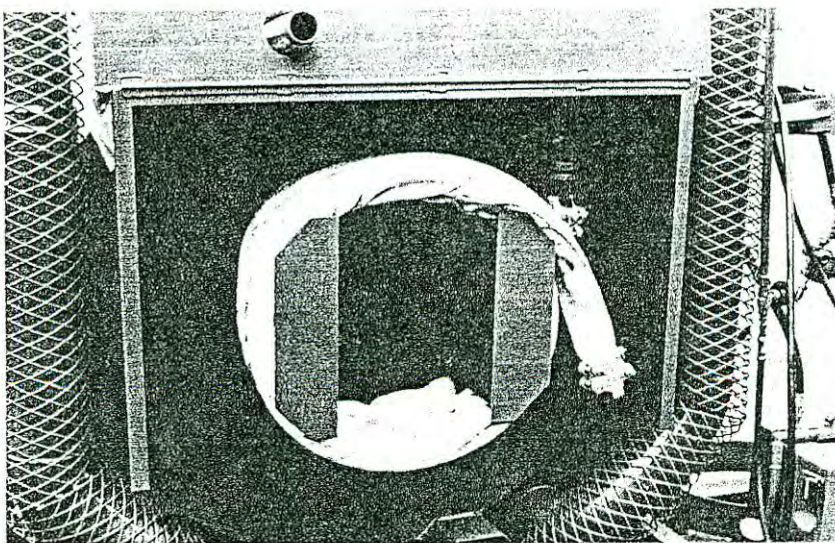
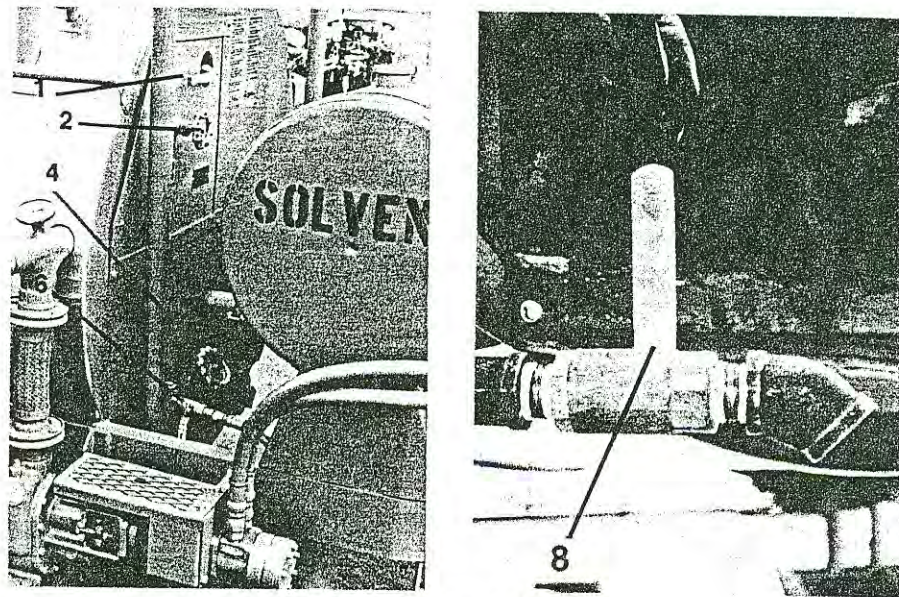

FIGURE 5 — Heating Chamber
FIGURE 15 — Valves
8. Applicator hose can be kept warm and ready for use by storing it in heating chamber before use of machine. See Figure 5. Close heating chamber door after hose has been coiled in heating chamber.
2. Open tank valve (4) Figure 15.
1. Close valves on LPG cylinders. Wait for burners to flame out. Then close line ball valves (2).
3. Stop material pump. Close tank valve (4). Figure 15.
5. Close recirculation valve (1) completely and open cleanout valve (6). Figure 15.
7. When solvent flows freely through hand applicator, close cleanout valve (6) and disengage pump.
8. Open drain valve (8) and reverse pump until all fluid is purged from lines.
9. Stop pump and close drain valve (8).
11. Coil hose in heating chamber for next use (Figure 5). Hang hand applicator on hooks. Cleanout of all lines and pump is complete.